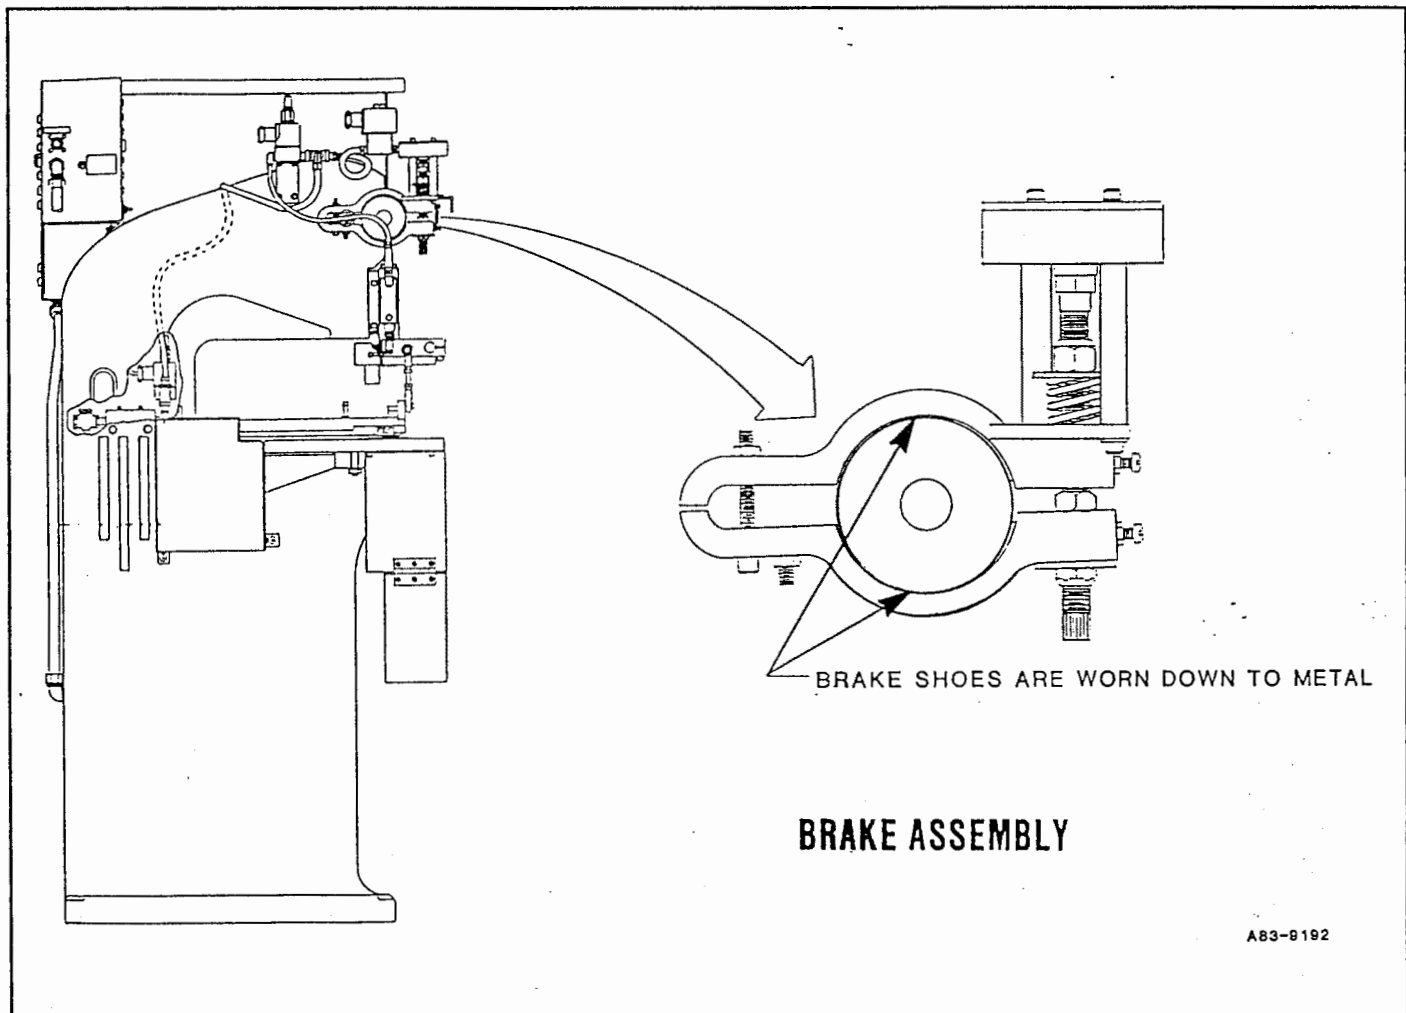

Figure 8.3 A
3. Unscrew brake guard screws (113) with 3/16" hex wrench and remove washers (114 & 115).
4. Unhook brake guard (117) from press. Brake guard has two hooks that hook onto top of press.
5. Inspect brake shoes for excessive wear as shown in Figure 8.3 A. If brake shoes are OK, then the problem is with the electronics package. Reattach the brake guard and then place a loaner electronics package into the press according to steps 11-14 in Section 8.1.4. If brake shoes are worn or if brake shoes squeak when press is in use, replace the brake shoes as follows:
6. Remove brake preload spring with needle-nose pliers. See (A) in Figure 8.3 B.
7. Loosen brake preload spring jam nuts (B) with needle-nose pliers.
8. Unscrew brake preload spring screws (C) with screwdriver.